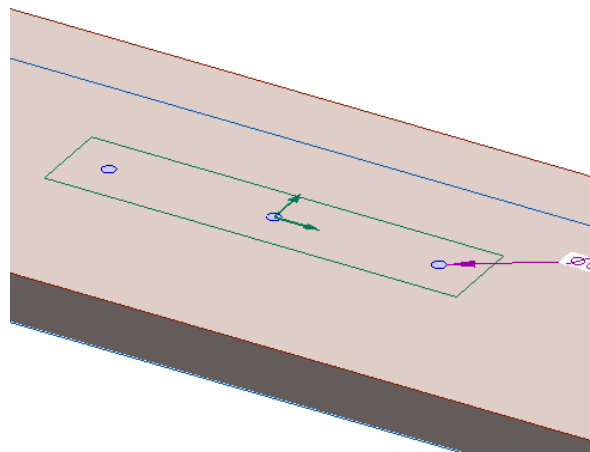

Figure 6. Mounting Holes ready to be extruded.
11. Shift-T to see the design in 3D. as in figure 6.